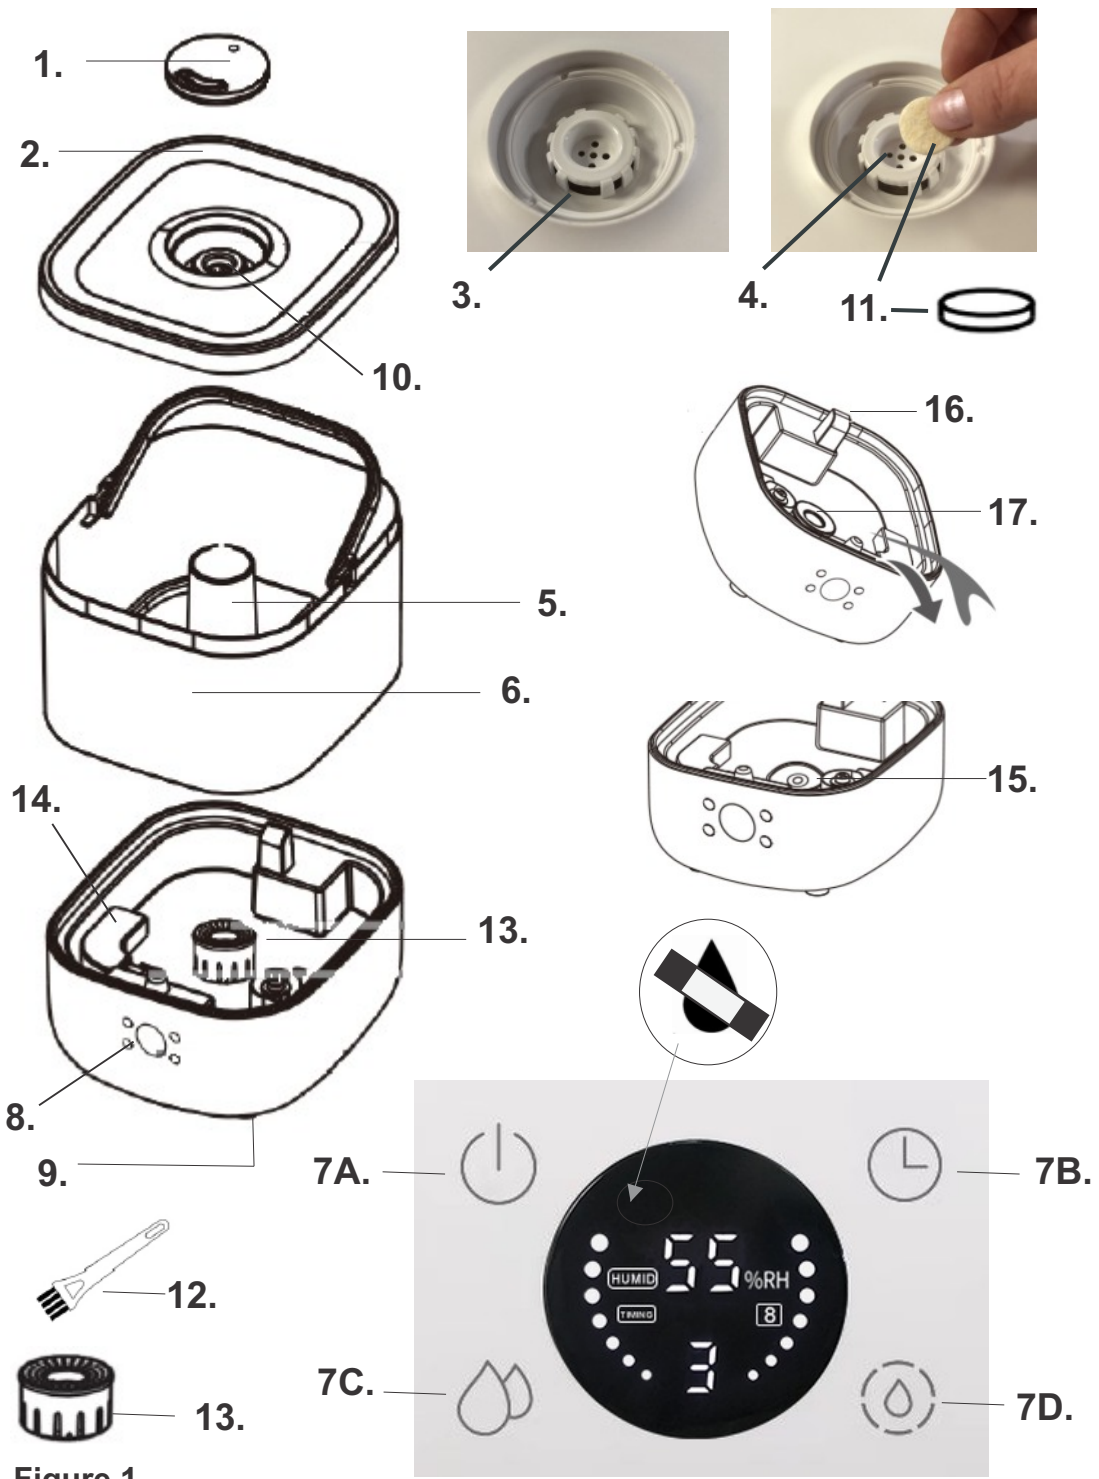

Figure 1
Device description: Ultrasonic humidifier (Figure 1)
When the device is running, the float (14) detects the lack of water. Then the device stops working, a flashing red symbol of crossed-out drop appears on the display (8) (see Figure 1), after 30 seconds the device goes into standby mode. After adding water, press the power button (7A), after which the device can work normally.